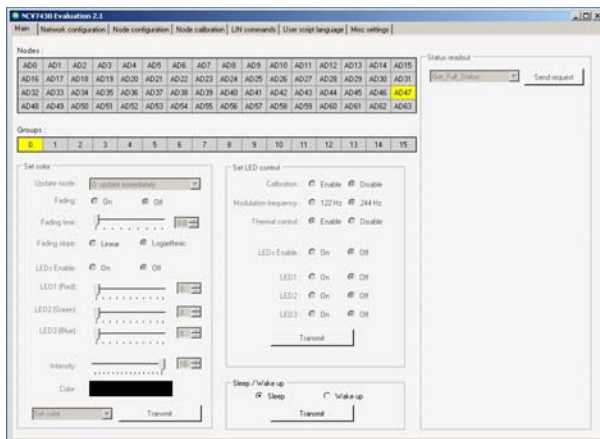

Figure 12. The New Address is Programmed
8. The new address is programmed (see Figure 12).